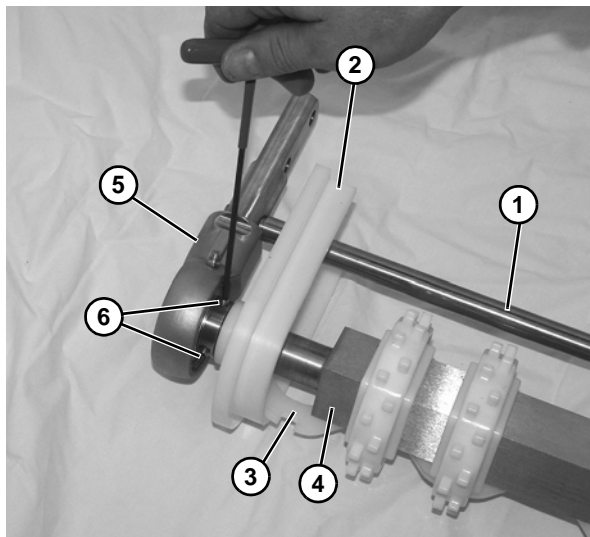

Figure 72
3. Install pinch guard shaft (**Figure 72, item 1**) onto pinch guard (**Figure 72, item 2**).
4. Install pinch guard (**Figure 72, item 2**) onto alignment bar (**Figure 72, item 3**), and onto each side of drive spindle (**Figure 72, item 4**).
5. Install bearing shaft assembly (**Figure 72, item 5**) onto rod (**Figure 72, item 1**) and drive spindle (**Figure 72, item 4**). Slide bearing shaft assembly onto the drive spindle on opposite side.
6. Use a hex wrench to install the two set screws (**Figure 72, item 6**). Use a torque wrench to tighten them to 54 in•lbs (6 N•m). Check after 24 hours of conveyor use.
7. Attach the bearing cover onto bearing shaft assembly (**Figure 72, item 5**).